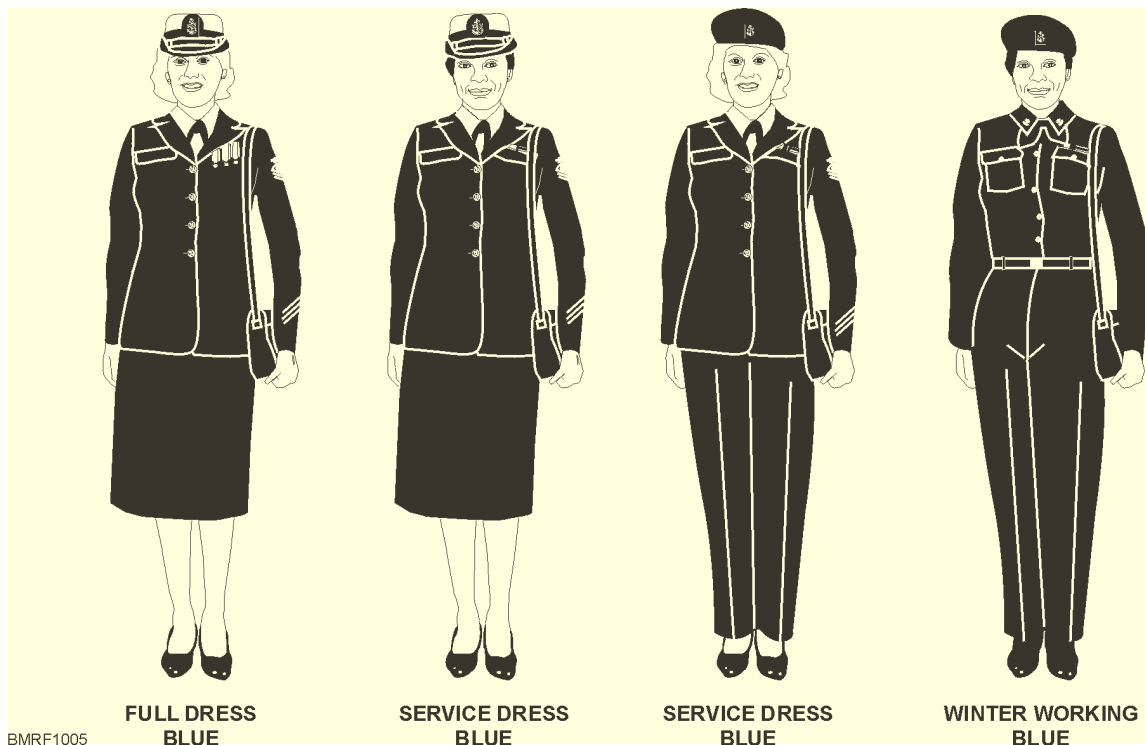

Figure 10-5.—Enlisted women's uniforms.
Enlisted (E-6 and below) women's uniforms and their proper wear are shown in figures 10-5 and 10-6 (not all uniforms are shown). Uniforms must be tailored according to the specifications in the following paragraphs:
**Service dress blues.** The enlisted women's service dress blues (fig. 10-5) is worn with ribbons. The necktie or necktab is worn with the outer edges parallel to the outer edges of the collar. An equal amount of the necktab should show on each side of the collar. For prescribed (required) and optional items, refer to NAVPERS 15665.
**Full dress blue.** The full dress blue uniform is the same as the service dress blue uniform. Large medals and ribbons are worn (fig. 10-5) with this uniform.